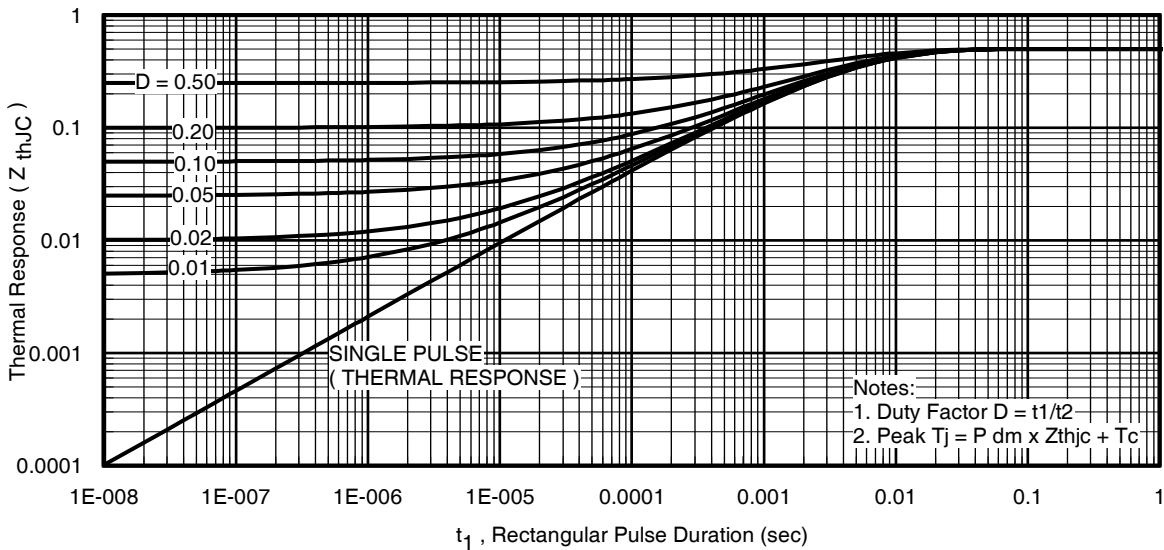

Fig 11. Maximum Effective Transient Thermal Impedance, Junction-to-Case
- ① Calculated continuous current based on maximum allowable junction temperature. Package limitation current is 195A. Note that current limitations arising from heating of the device leads may occur with some lead mounting arrangements. (Refer to AN-1140) <http://www.irf.com/technical-info/appnotes/an-1140.pdf>
- ② Repetitive rating; pulse width limited by max. junction temperature. (See fig. 11).
- ③ This value determined from sample failure population, starting $T_J = 25^\circ\text{C}, L = 0.24\text{mH}, R_G = 25\Omega, I_{AS} = 75A, V_{GS} = 10V$.
- ④ $I_{SD} \leq 75A, di/dt \leq 220A/\mu s, V_{DD} \leq V_{(BR)DSS}, T_J \leq 175^\circ\text{C}$.
- ⑤ Pulse width $\leq 1.0\text{ms}$; duty cycle $\leq 2\%$.
- ⑥ $C_{oss \text{ eff.}}$ is a fixed capacitance that gives the same charging time as C_{oss} while V_{DS} is rising from 0 to 80% V_{DSS} .
- ⑦ This value determined from sample failure population. 100% tested to this value in production
- ⑧ This is applied to D²Pak, when mounted on 1" square PCB (FR-4 or G-10 Material). For recommended footprint and soldering techniques refer to application note #AN-994.
- ⑨ Max $R_{DS(on)}$ for D²Pak and TO-262 (SMD) devices.
- ⑩ TO-220 device will have an R_{th} value of 0.45°C/W .
$Z_{thJC}(D, t_{av})$ = Transient thermal resistance, see figure 11)